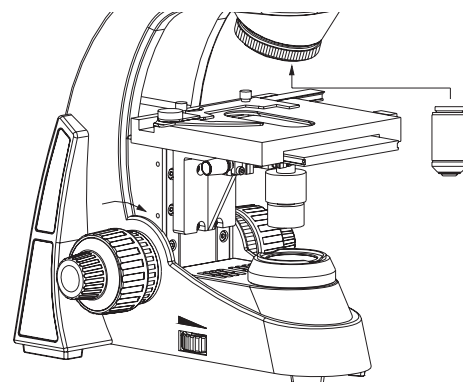

Figure 1.
4. Install the objective lenses (see Figure 1). To avoid touching the surface of the lens, wear clean gloves. Ensure that the stage is in its lowest position. Install the objective lenses so that as the nosepiece is rotated in a clockwise direction, the magnification increases from lowest to highest. Avoid touching any of the lens surfaces with bare hands as dust, dirt, or fingerprints can damage the lens or adversely affect image quality.